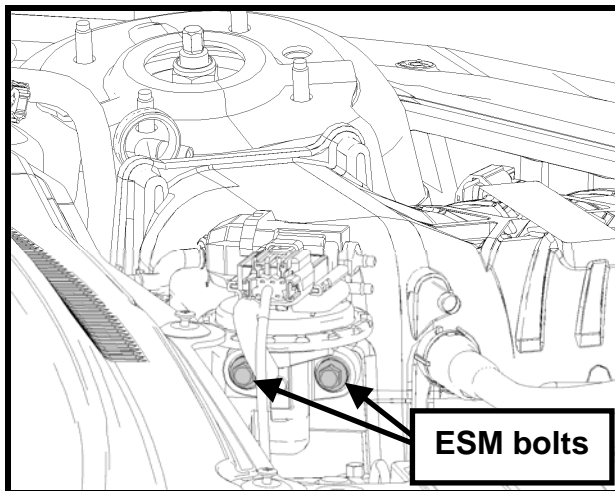
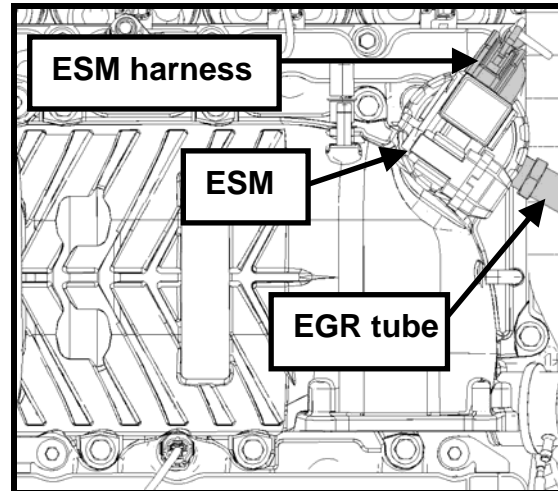

Fig. 22
Fig. 23
STEP 7: Apply a thread sealing compound to the stock EGR bolts. Install the ESM and torque the bolts to 25 Nm (221 lb in) (See Fig. 22). Connect ESM electrical harness and the EGR tube (See Fig. 23). Torque the EGR tube to 35 Nm (309 lb in)